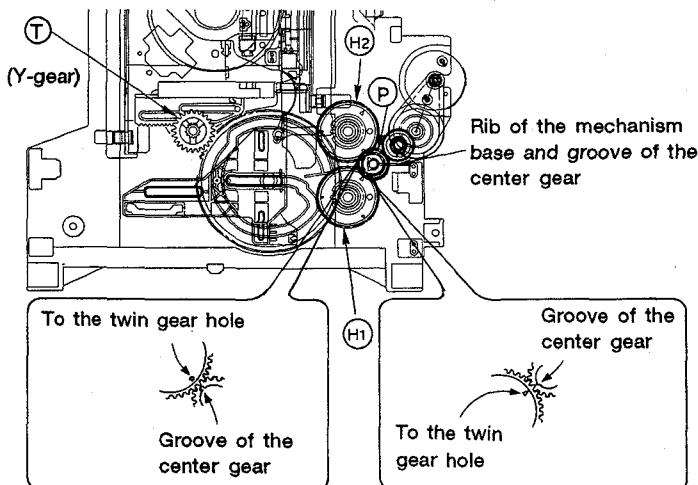

Fig. 2-11
1. Attach the center gear ⑨, twin gears ⑩ and ⑪, and Y-gear ⑫ in the positions indicated in Fig. 2-11.